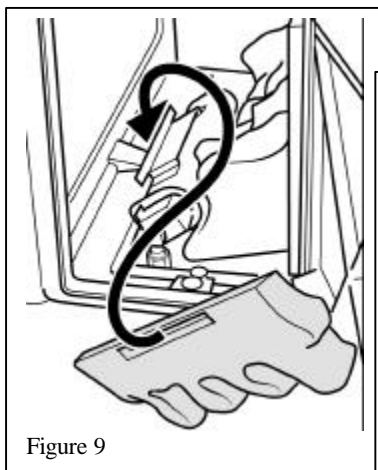

Figure 9
7. Fit the front base piece locating the ledge / slot that is underneath the base piece over the metal burner strip. (See figure 9).